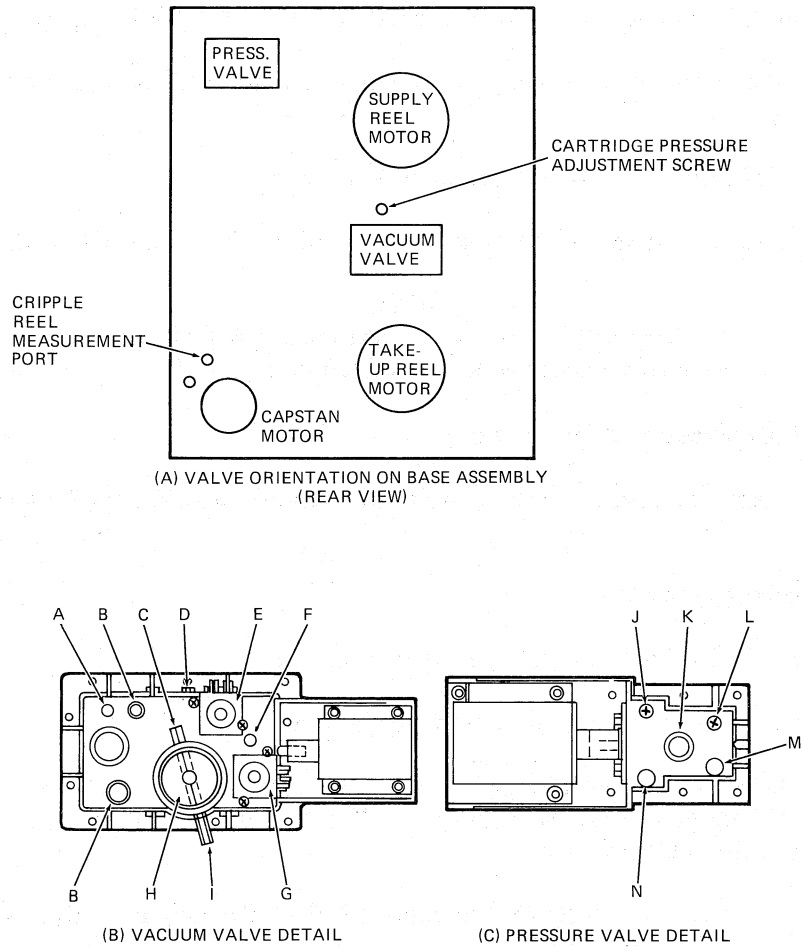

Figure 6-5 Vacuum Valve and Pressure Valve
6.5.4.1 System Vacuum Adjustment – Refer to Figure 6-5 and Table 6-6 while performing this adjustment.
6.5.4.2 Takeup Reel Vacuum Adjustment – Refer to Figure 6-5 and Table 6-6 while performing this adjustment.
6.5.4.3 Air Bearing Pressure Adjustment – Refer to Figure 6-5 and Table 6-6 while performing this adjustment.
6.5.4.4 Thread Block and Cartridge Pressure Adjustment – Refer to Figure 6-5 and Table 6-6 while performing this adjustment.
14. If the reading is out of tolerance, adjust the cartridge pressure adjustment screw (Figure 6-5) for a reading of 63.5 mm (2.5 in) of water.